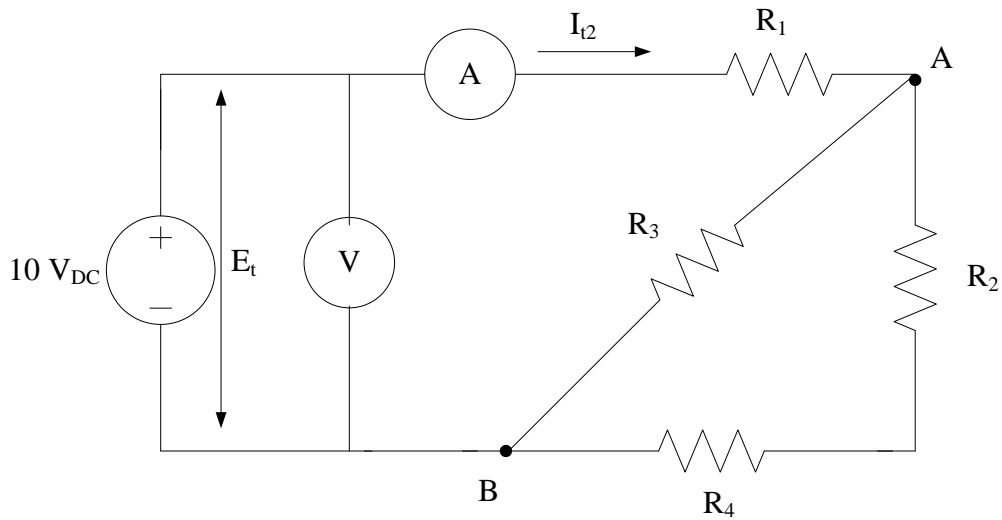

Figure 2
3.3 Change to the circuit in Fig. 2. (The AMMETER changes place)